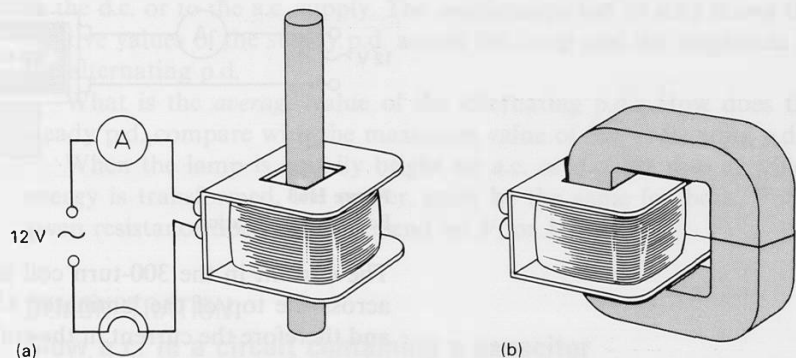

Figure H61
In figure H61(a) the coil and lamp are connected in series to a 12 V a.c. supply. Observe and explain what happens:
- when there is a complete C-core in the coil – figure H61(b).